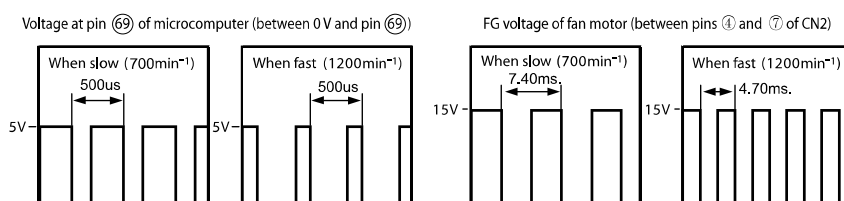

Fig. 3-2
- The VS receives a command voltage from the microcomputer. The VS terminal undergoes an analog voltage that matches the Lo level time ratio of the pulse signal from pin ⑥9 of the microcomputer. (See Fig. 3-2.)